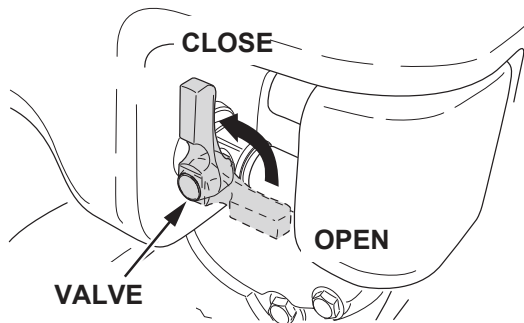

Figure 15. Water Tank Valve (Close)
2. When stopping sprinkling work, close the valve of water tank (Figure 15).